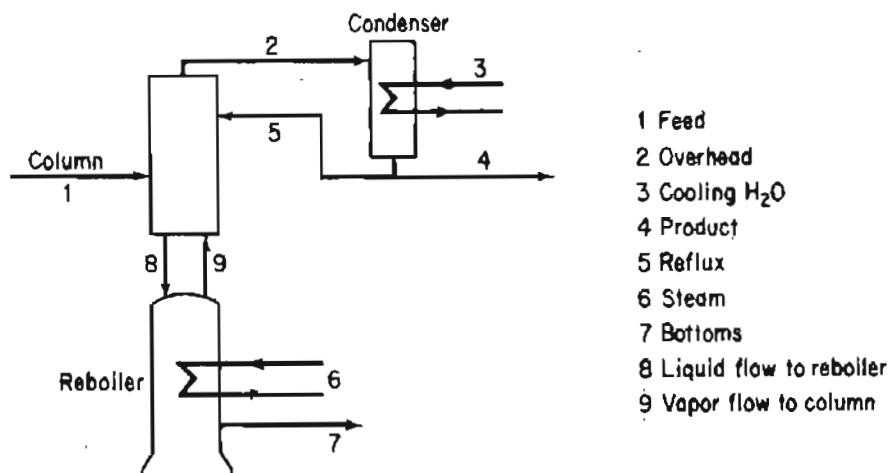

Figure P11.4
- *11.4 The diagram in Figure P11.4 represents a typical but simplified distillation column. Streams 3 and 6 consist of steam and water, and do not come in contact with the fluids in the column that contains two components. Write the total and component material balances for the three sections of the column. How many independent equations would these balances represent? Assume that stream 1 contains n components.